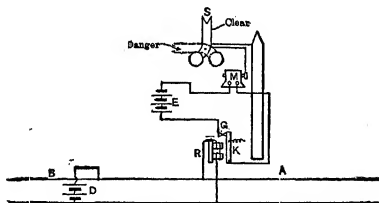

FIG. 151. Diagram of railroad block signal.
**Prob. 23-7.** Complete a circuit from terminals  $f-g$  showing how a relay similar to the one in Fig. 151 would close the switch to operate a motor-driven swinging arm signal.